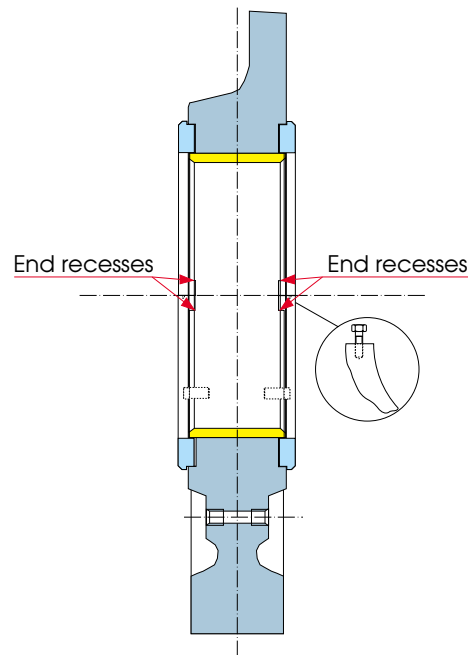

Fig 10-3
12 Remove the lower bearing shell and the thrust washers. To remove the thrust washer next to the driving end, an M6 screw can be fitted to each end of the washer, see Fig 10-3.
- 3** Lubricate the bearing surface, back side and both ends of the upper bearing shell with clean lubricating oil and place the end of the bearing shell in the slot between the journal and the bearing bore. The axial location of the shell is to be secured by keeping the bearing shell end recesses at level with the axial faces in the engine block, see Fig 10-3.
8 Lubricate the bearing surfaces of the lower thrust washers and push them into position on the guiding pins in the bearing cap. For mounting the thrust washer next to the driving end an M6 screw can be fitted to each end of the washer, see Fig 10-3.
9 Lubricate the bearing surface of the lower bearing shell with clean lubricating oil and place the shell in bearing cap. The axial location of the shell is to be secured by keeping the bearing shell end recesses at level with the axial faces in the cap, see Fig 10-3.